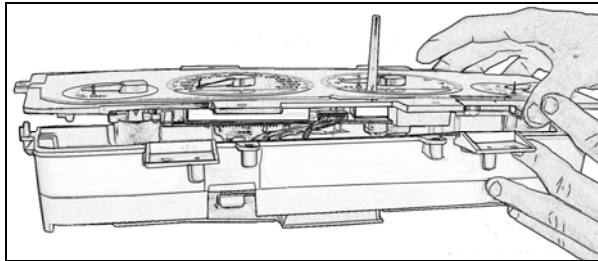
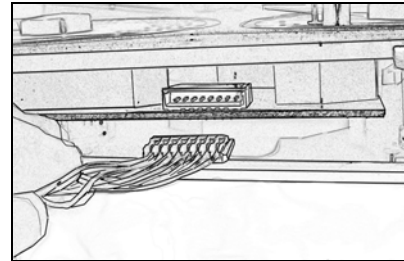

Figure 4
Figure 5
5. Carefully remove the OEM graphic & gauge assembly by pulling it evenly away from the circuit board & housing assembly (See figure 4). Disconnect the Odometer display before completely removing the gauge assembly (See figure 5).
6. Remove the Odometer Display from the rear of the OEM graphic and gauge assembly by removing the 2 Torx T-8 screws (See figure 5). Then install the Odometer Display onto the rear of the New Simco Module in the same orientation reusing the 2 original Torx T-8 Screws.
- C. Reconnect the Odometer display (See Figure 5 Above).